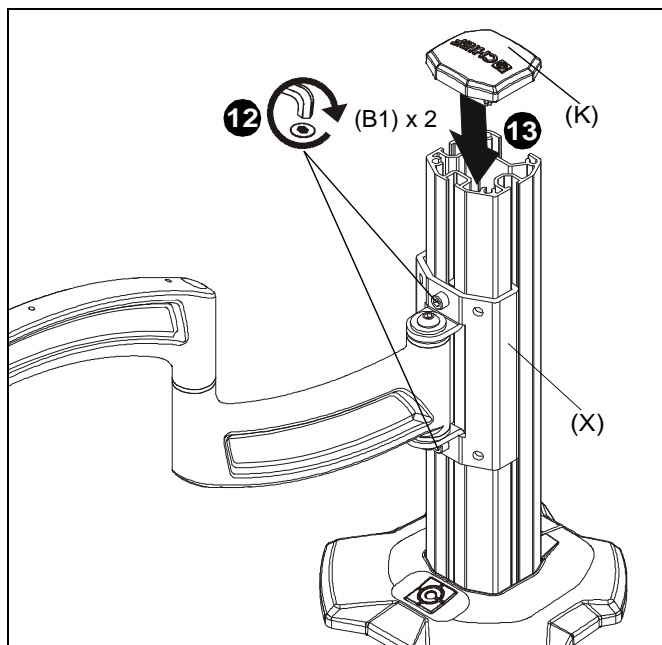

Figure 6
12. Tighten two 1/4-20 x 1/2" socket head carriage screws (B1) to secure column arm (X) at desired height. (See Figure 6)
13. Install column cap (K) to column (V). (See Figure 6)